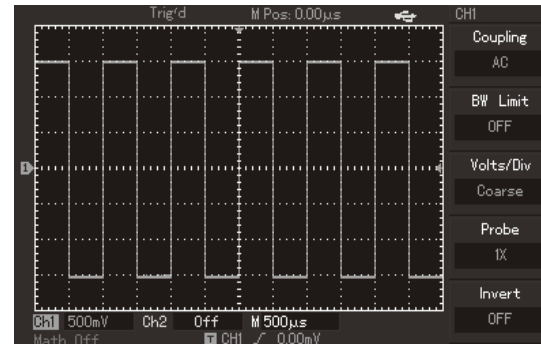

Figure 1-7
③. Connect probe and grounding clip to corresponding connection ends then press **[AUTO]** button. As shown in Figure 1-7, square wave (1kHz, about 3V and peak value) can be displayed within several seconds. It has to inspect CH2 by the same method then press **[OFF]** function button so as to power off CH1. It has to press **[CH2]** function button to power on CH2 and repeat the second and third steps.